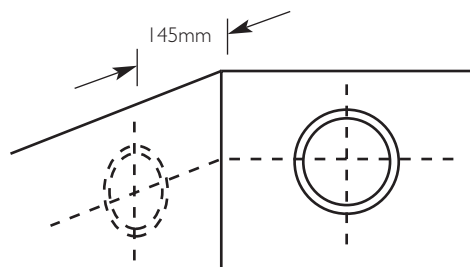

Fig. 20 For Side Flue Exit
6. Mark the position of the centre of the flue hole (rear exit). For side flue exit, mark as shown (Fig. 20).